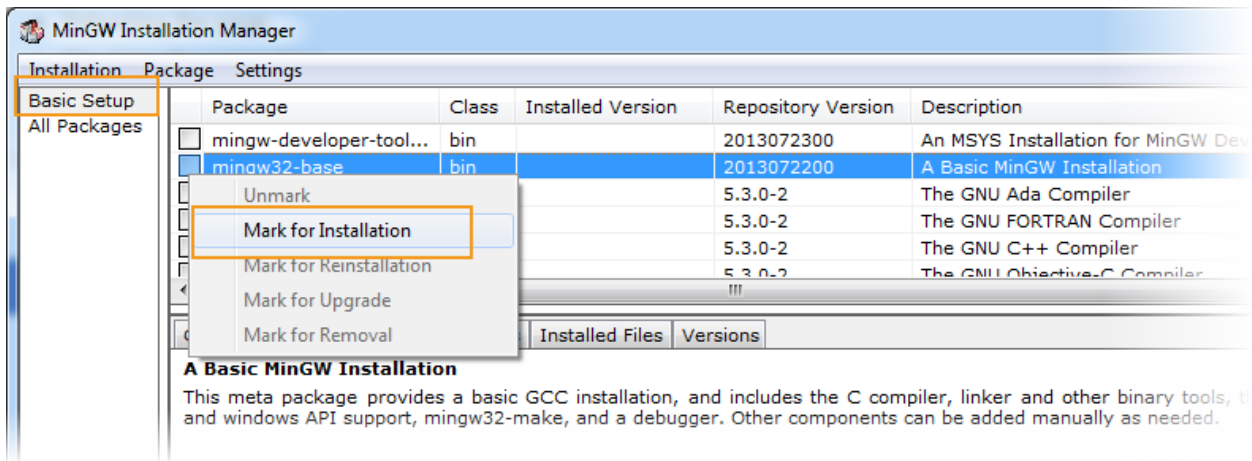

Figure 18. Basic setup on MinGW Installation Manager
- 5) Select **msys-base** and **mingw32-base** from **Basic Setup** package list, and right click to bring up the menu options. Click **Mark for Installation** from the menu (see Figure 18).